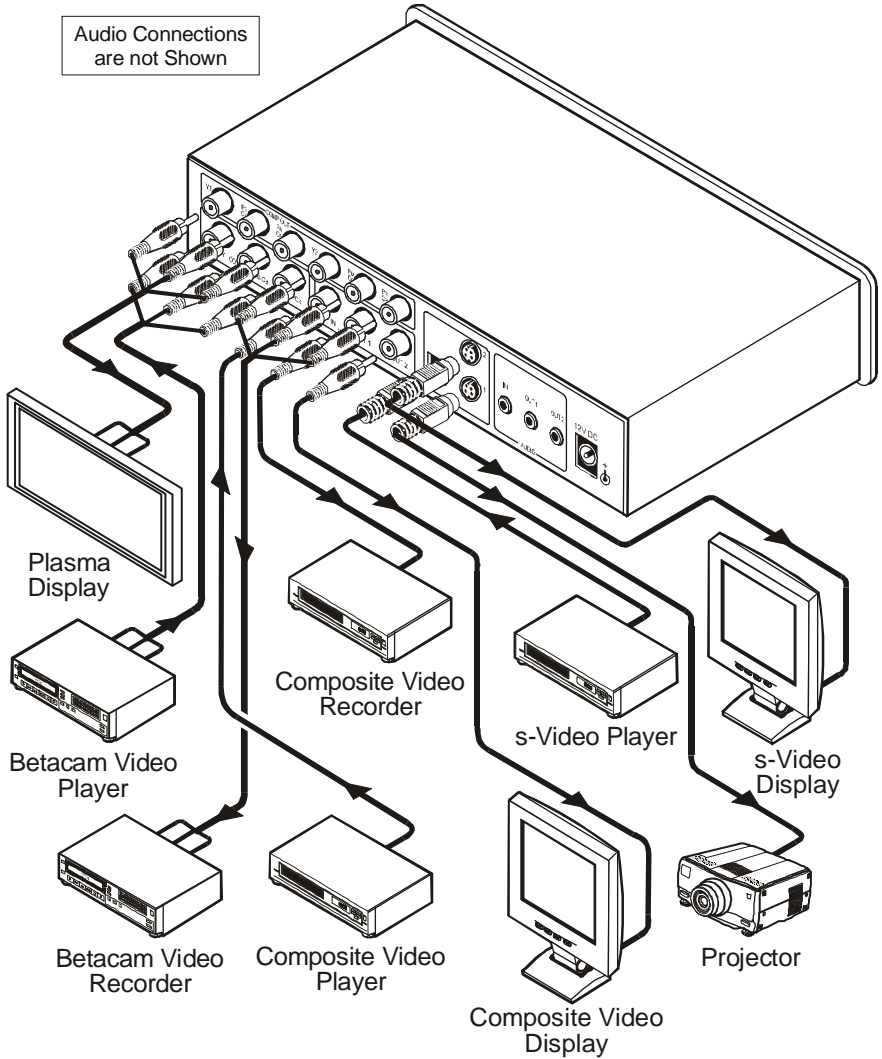

Figure 2: Connecting the VM-312 Multi-Format Distributor
To connect the **VM-312** as illustrated in the example in Figure 2, do the following¹:
4. Connect the AUDIO source and acceptors (not shown in Figure 2), as follows:
5. Connect the 12V DC power adapter (not shown in Figure 2) to the power socket and connect the adapter to the mains electricity.